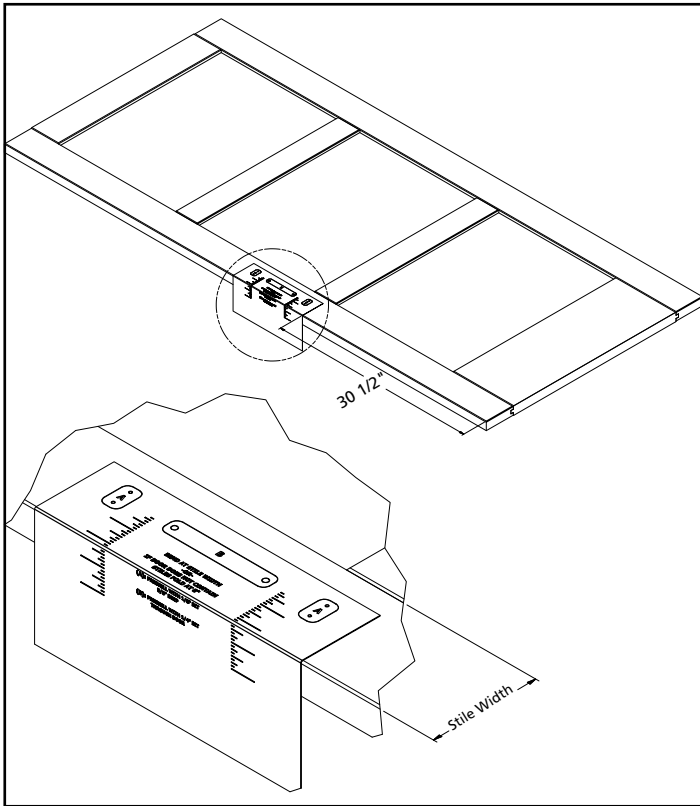

Figure 4. Aligning Handle Drill Guide to Door.
If the door design selected for this kit includes stiles, it is recommended that the handle is installed at the center of the stile. This can easily be achieved through the use of the rulers included on the Handle Drill Guide, on Page 13. Simply measure the stile width of the door, and fold the guide along the same measurement, shown in Figure 4.
3. Place the bottom edge of the Handle Drill Guide 30 1/2" above the bottom of the door as seen in Figure 4.